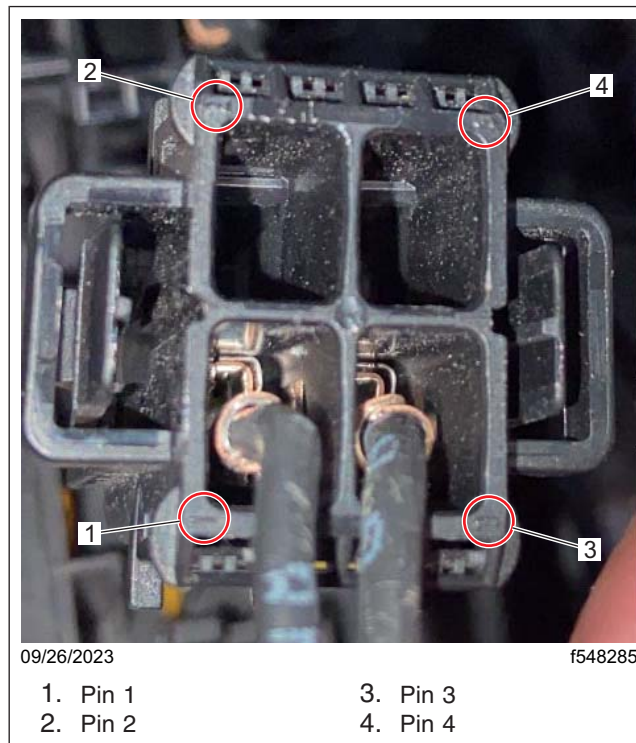

Fig. 17, SSAM X10 Connector Pin Locations
9.2 Locate pin 1 of the X10 connector. See Fig. 17